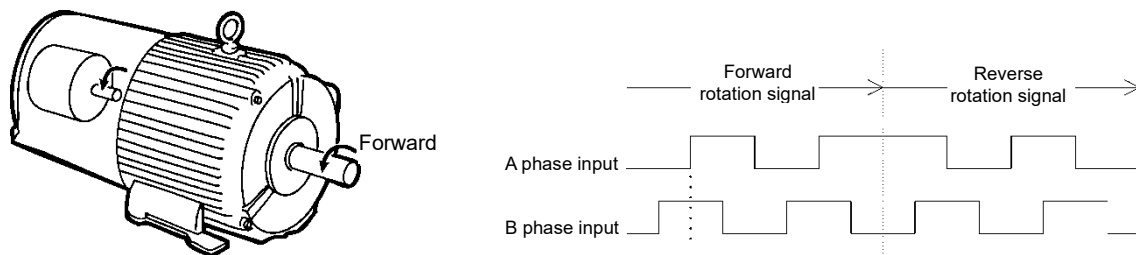

Figure 4.8-2
Fuji regards counter-clockwise CCW as the forward rotation direction viewed from the motor output shaft as shown in Figure 4.8-2. During rotation in the forward direction, the encoder pulse forms a forward rotation signal (B phase leads by 90 degrees), and during rotation in the reverse direction, a reverse rotation signal (A phase leads by 90 degrees).
**Note** In the case of using motors which comply with IEC standard, their rotation directions are opposite to that in Figure 4.8-2.